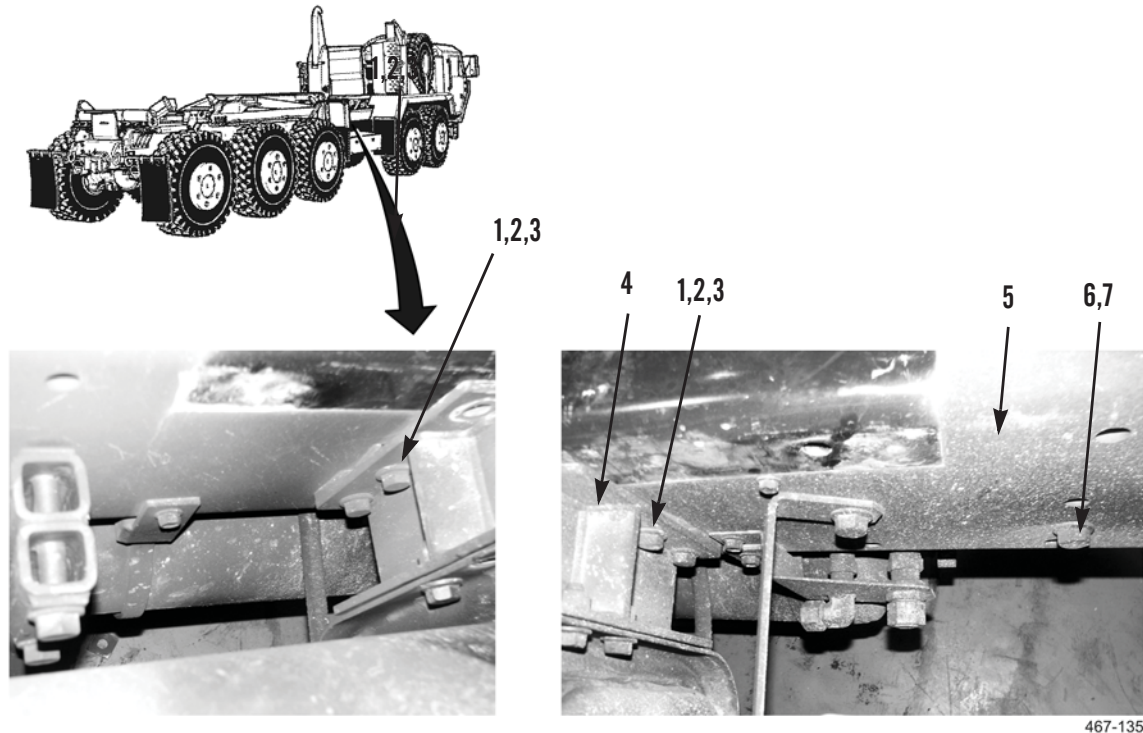

Figure 22. PLS Right-Side Bolt Removal.
12. On right side of vehicle, remove two nuts (Figure 22, Item 3), bolts (Figure 22, Item 2), and spacers (Figure 22, Item 1) from gas tank bracket (Figure 22, Item 4).
13. Remove bolt (Figure 22, Item 6) and nut (Figure 22, Item 7) from frame (Figure 22, Item 5).